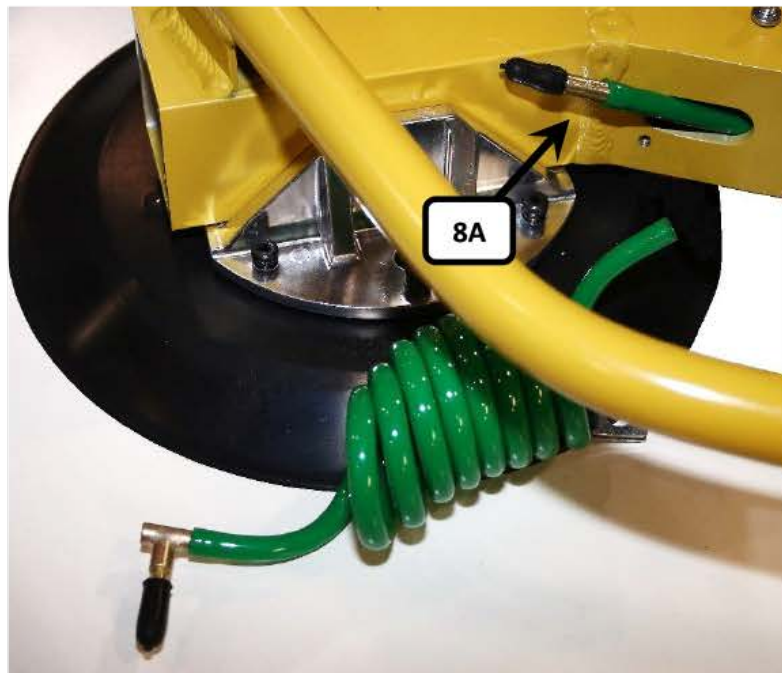

FIGURE 8
8) Cap the coupler fittings of the section being tested, to seal off the vacuum lines as shown in **FIGURE 8**.
9) Switch the power to on (I), and activate the vacuum generating system by pressing the apply (⇄) push button.
10) Allow the vacuum system to reach a suitable vacuum level or to shut off automatically and switch the power to off (O).